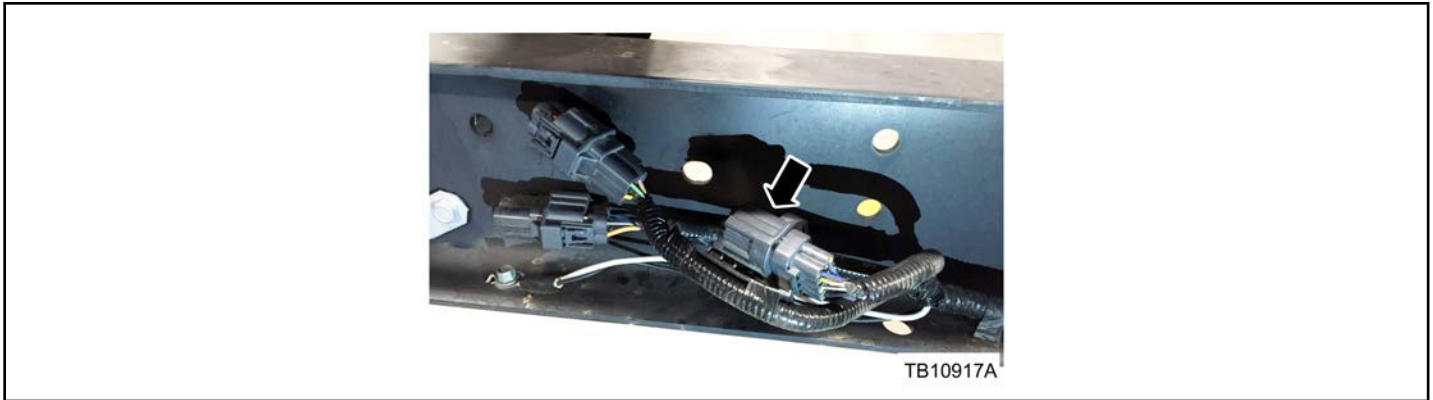

Figure 2 - Article 16-0091
6. Check for continuity between the wire routed toward the front of the vehicle (Figure 1B) and C432 pin 7 YE-GN located at the rear of vehicle. (Figure 2) Does the wire have continuity?
- (1) Refer to the wiring repair procedures outlined in Cell 5 of the Wiring Diagram.
- 7. Cut the second YE-GN wire. The wire routed toward the front of the vehicle (Figure 1B) and connector C432 at the rear of the vehicle will have continuity. (Figure 2) Proceed to Step 8.